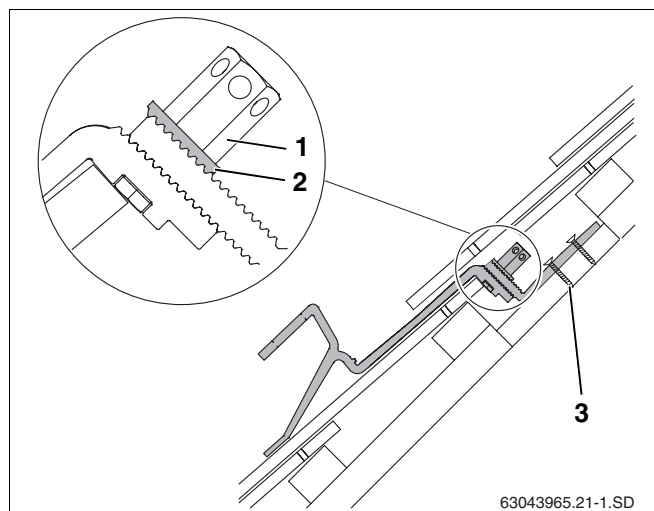

Fig. 19 Fitted roof hook – cross section showing shortened lower part of roof hook
The serated washer (Fig. 19, **Item 2**) must grip the teeth on the lower part of the roof hook.
- ▶ Tighten the long hexagon nut (Fig. 19, **Item 1**). To do this, insert the size 5 Allen key into the hole in the hexagon nut and turn.
- ▶ Using suitable screws, fasten the lower part of the roof hook into the first (Fig. 19, **Item 3**) and second holes (at least) of the joist or board.